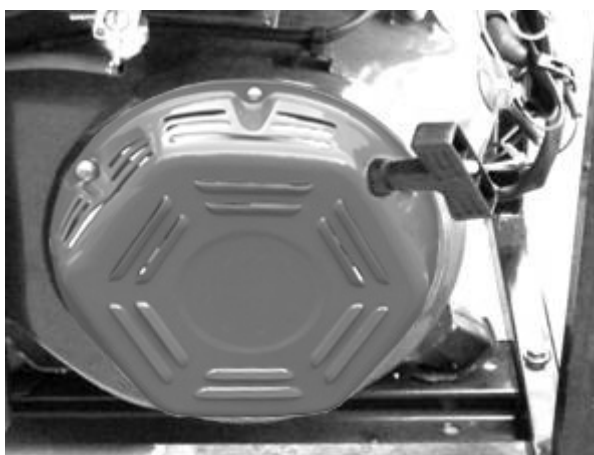

Figure 6 - Pull-cord for starting the engine.
6. Slowly pull on the recoil starter handle, shown in Figure 6, until a slight resistance is felt. Then pull briskly to start the engine. Gently return the cord into the generator to avoid damage to the starter or housing. Never allow the cord to snap back.